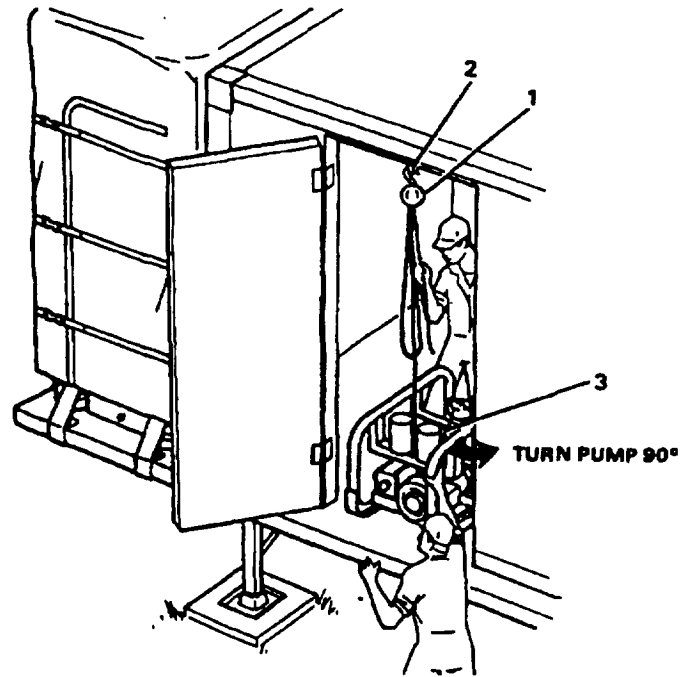

Figure 2-66. Loading the Distribution Pump
- (43) Attach chain hoist (1, Figure 2-66) to eyebolt (2) over distribution side access door and to eyebolt on distribution pump (3). Using chain hoist, lift the distribution pump into van and position distribution pump with drain pipe facing door.
- (52) Hook padded straps (61 and 62) in position.
- (53) Store access ladders (60), separator frame (63) (Model WTA-060 only) and sandwich in ground rods (64), ground wire (65), slip hammer (66) and ground rod clamp (67).
- (54) Secure by tightening straps (61 and 62). On Model WTA-060, keep pads of straps (61 and 62) over corner of ladder and separator frame when tightening.
- (55) Attach strap #3 (Model ROWPU-1) or strap #10 (Model WTA-060) to floor hood in front of control panel and have strap out of the way.
- (56) Position the last storage tank (68) standing on end against control panel, being careful not to damage the panel. The tank may need to be moved slightly to the right if the raw water pump (69) will not fit completely through the door.
- (57) Store raw water pump power cables (70) on top of raw water pump. Keep eyebolt accessible.
- (58) Hook chain hoist in eyebolt, hoist raw water pump through door and rotate 90 with caution plate facing door (Figure 2-66). Disconnect chain hoist from raw water pump (69) and place the chain in the chain hoist bag (71) and tie closed. Leave the chain hoist hanging in the doorway.
- (59) If moved, reposition the storage tank (68) in front of control panel.
- (60) Position strap #2 (Model ROWPU-1) or strap #10 (Model WTA-060) over pump (69) and attach the ends to the floor hooks on the left and right side of the pump (69). Tighten the strap securely.
- (61) Place strap #3 or strap #10, already in place, over storage tank (68) and pump (69), and connect the end to floor hook in front of pump. Tighten strap securely.
- (62) Secure van door.